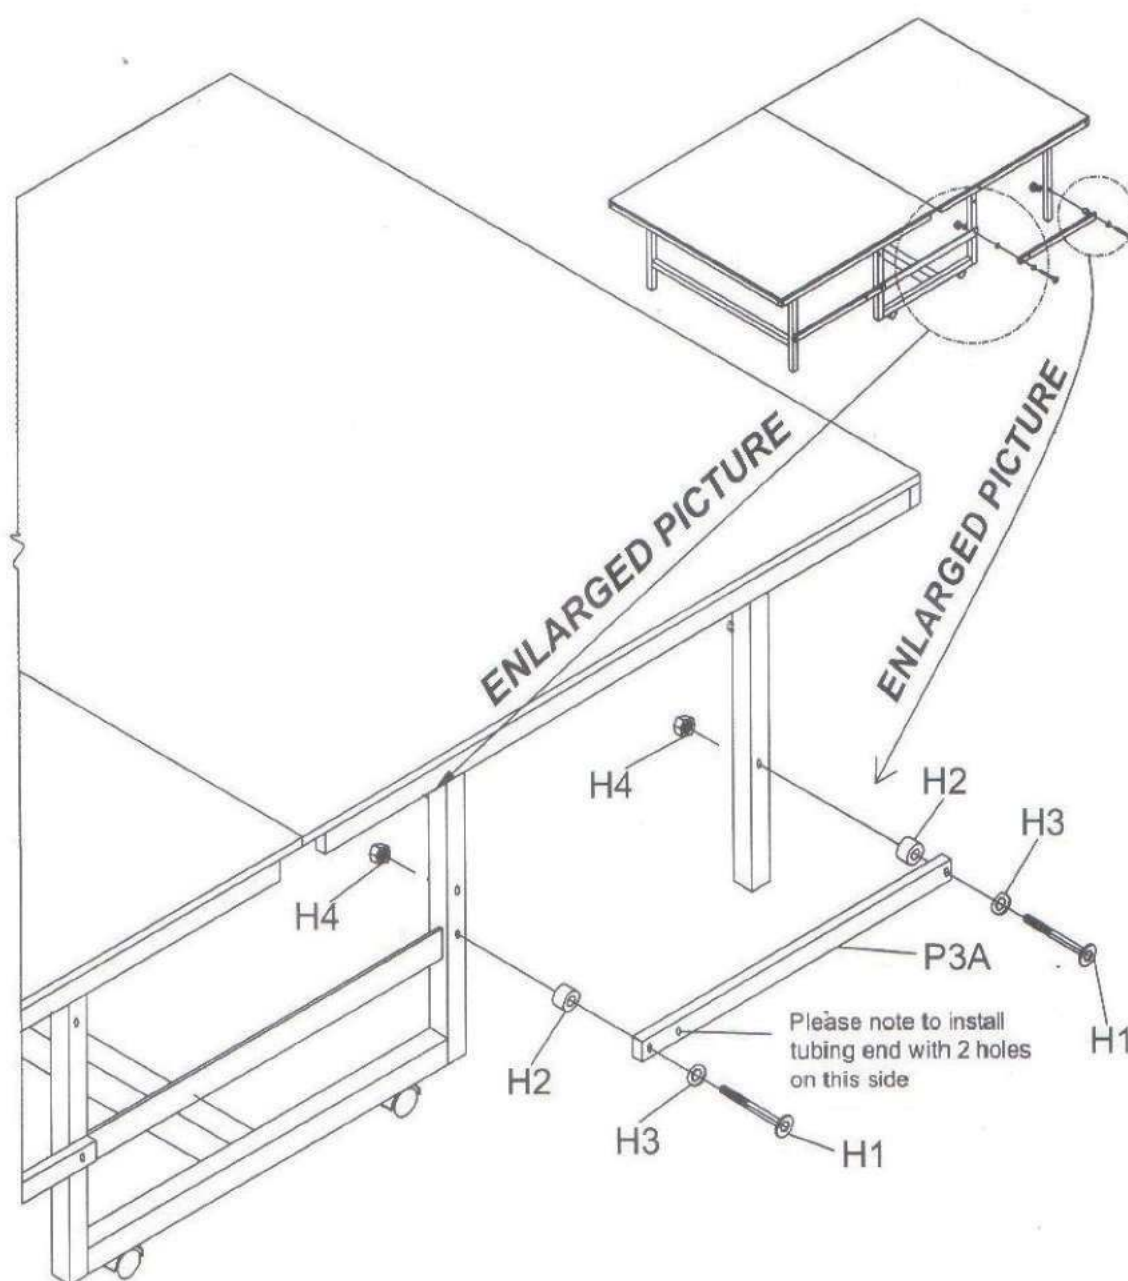

**FIGURE 10**
(Note : Be sure to have leg in steady position ) , see figure 10 ;
**STEP11** Attach the end of U leg tube underneath the table to tube bracket P4E with bolt H5 , nut H4 . see figure 10 ;